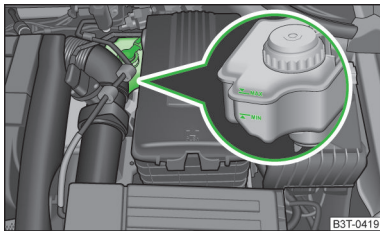

Fig. 165
- Do not continue your journey if the fluid level has fallen below the MIN marking » Fig. 165 on page 189,  - there is a risk of an accident. Seek help from a specialist garage.
The brake fluid reservoir is located in the engine compartment » Fig. 165.
- Check the level of brake fluid in the reservoir » Fig. 165.